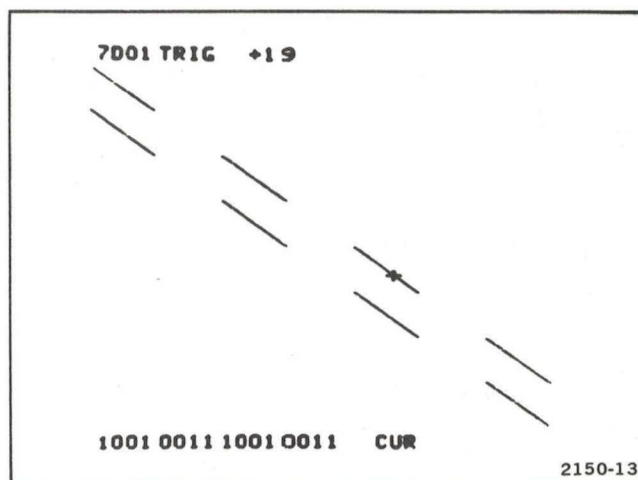

Figure 2-8. Typical map display of 15 channels from the 067-0804-00 Interface Test Fixture (channel 5 input disconnected).
5. Disconnect the channel 5 input from the Interface Test Fixture. Press the 7D01 Record Manual Reset push button and check that the Map display changes to 2 broken diagonal lines (see Fig. 2-8). Reconnect the channel 5 input signal.